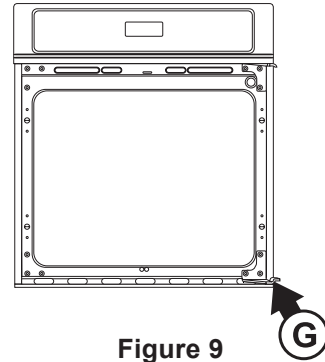

Figure 9
- 6.2.4. Remove the threaded pin from left side lower hinge (see G, Figure 9). Save the threaded pin for reassembly later.